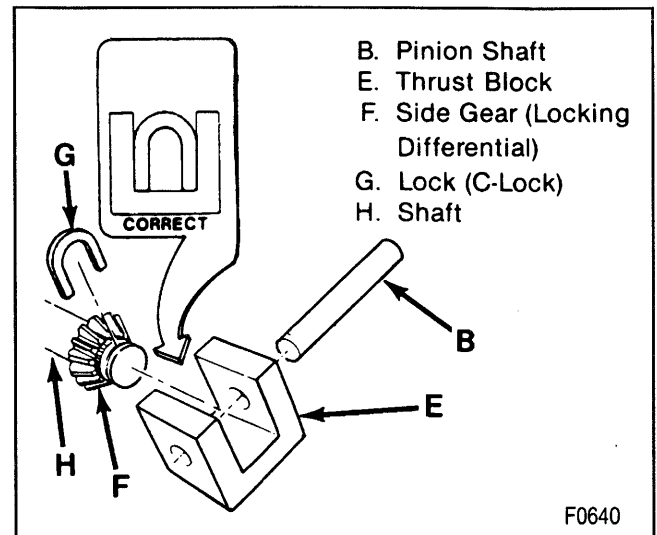

Figure 9—Aligning the Lock
4. Screw (A).
5. Pinion shaft (B).
- With a locking differential, remove the shaft (B) part way, and rotate the case until the pinion shaft touches the housing.
6. Lock (figure 9).
- Slide the axle shaft into place allowing the splines to engage the differential side gear (F) (figure 9).
- B. Place the lock in the position shown in figure 9. Pull the shaft flange outward to seat the lock in the differential side gear.